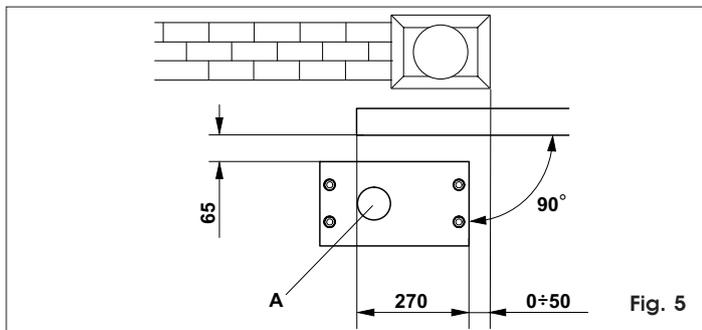
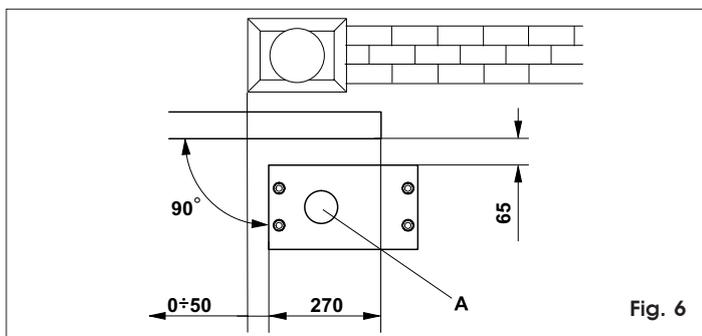

Fig. 5
Fig. 6
- 2) The foundation plate must be located as shown in figure 5 (right closing) or figure 6 (left closing) to ensure the rack and pinion mesh correctly.
**Caution:** While positioning the plate, leave the  $\varnothing 80$  hole foreseen for the routing of the sheaths on the left, as shown in fig. 5 and 6, ref.A.